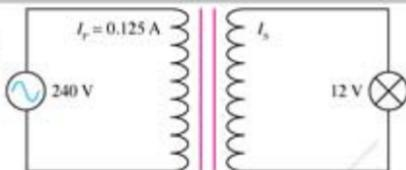

Figure 6
7. Figure 6 shows a transformer with a bulb at its output terminals.